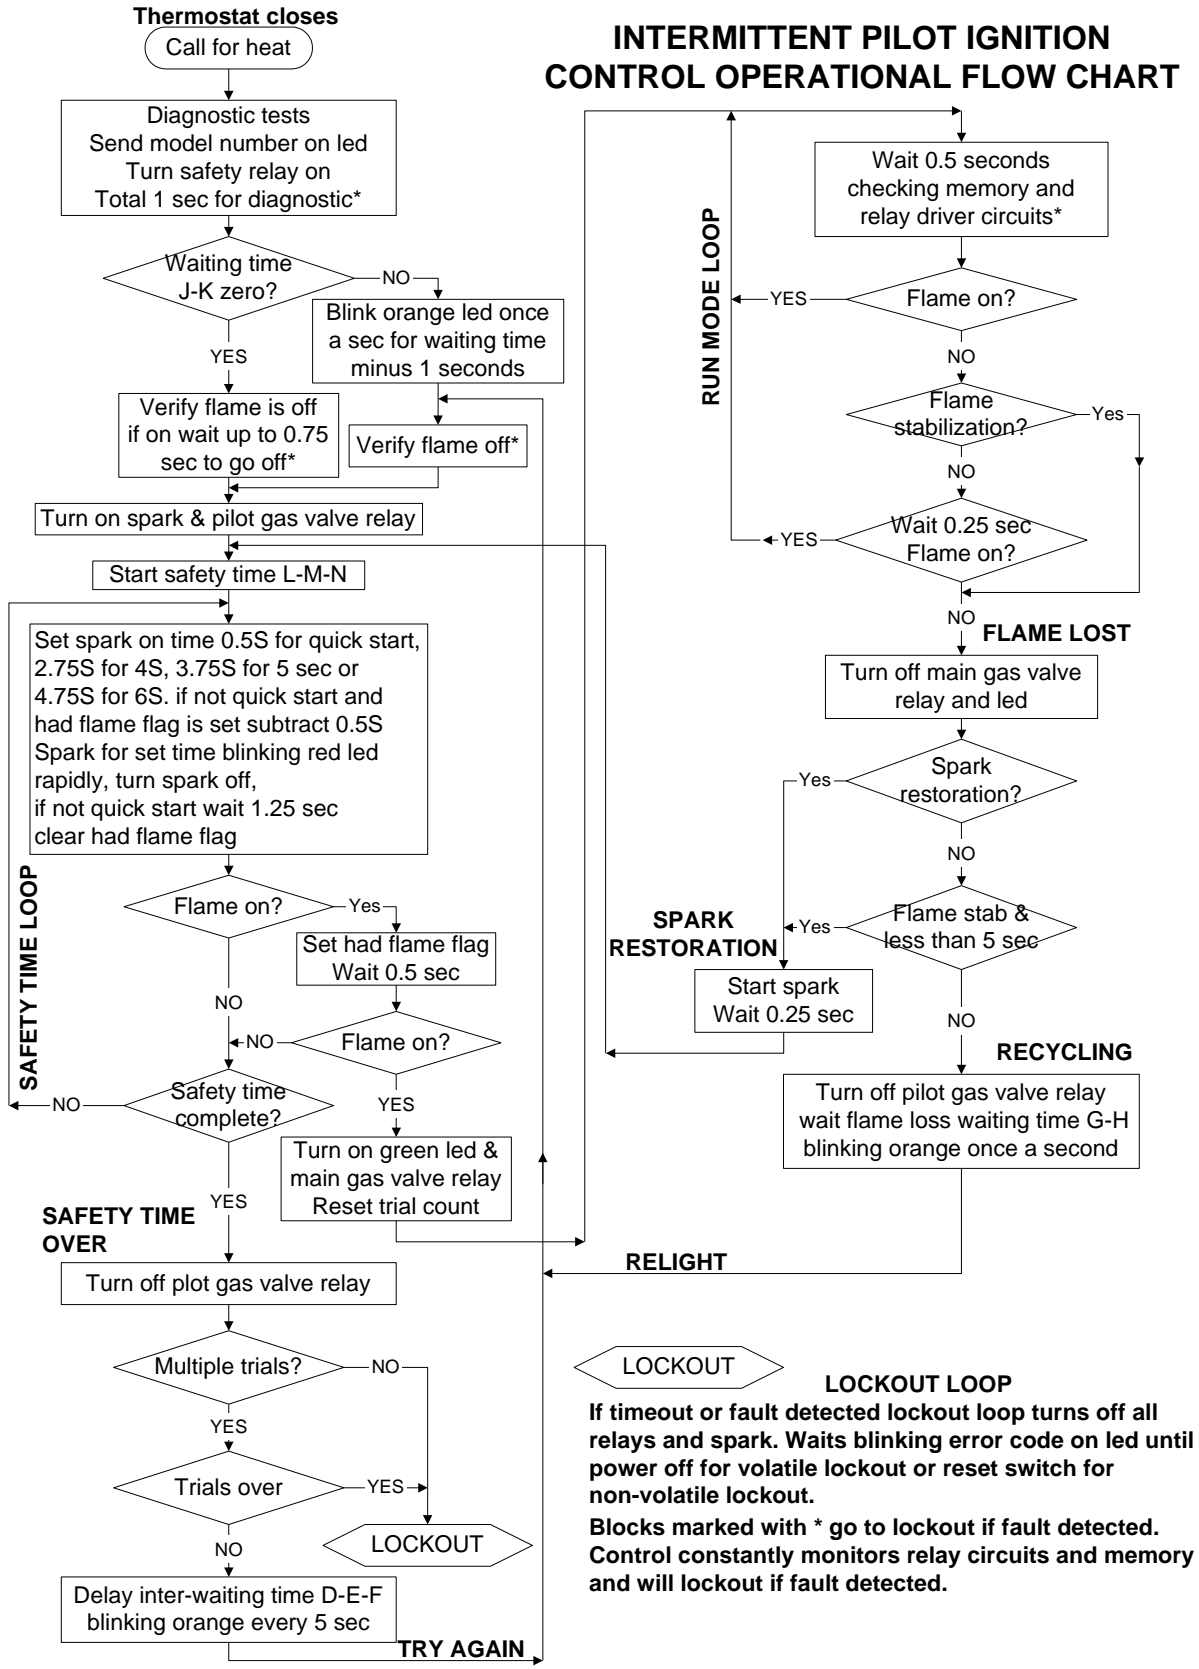

Figure 7 Operational Flow Chart
4. Turn on power to appliance with thermostat contacts closed. Verify that spark lights pilot burner followed by main burner. If there are any problems shut down the appliance and refer to the troubleshooting flow charts figures 7 and 8.